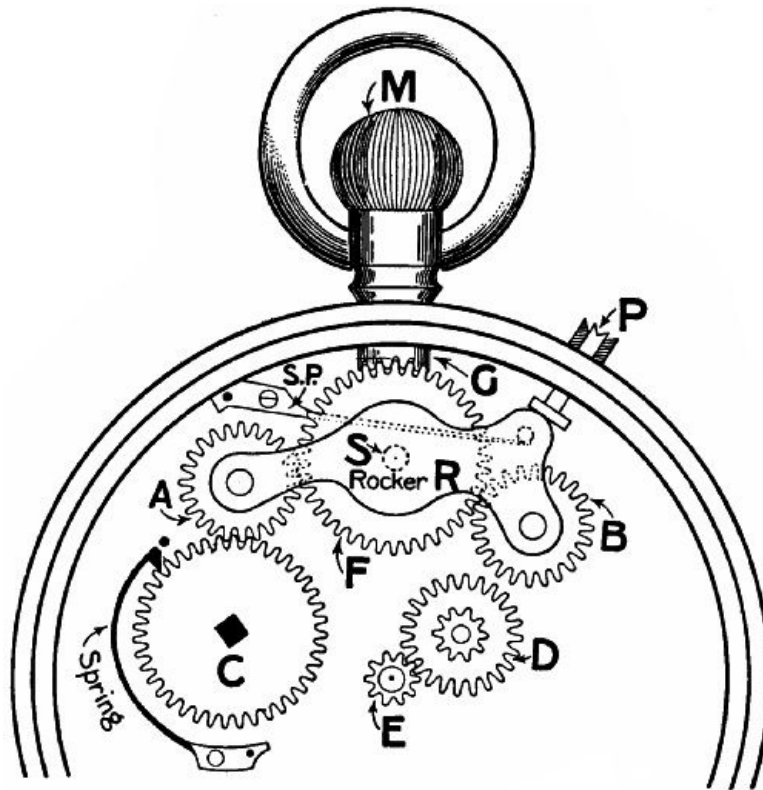

FIG. 209.—The winding mechanism of a keyless watch.
There are two forms of "going-barrel" keyless mechanism—(1) The rocking bar; (2) the shifting sleeve. The *rocking bar* device is shown in Figs. 209, 210. The milled head *M* turns a cog, *G*, which is always in gear with a cog, *F*. This cog gears with two others, *A* and *B*, mounted at each end of the rocker *R*, which moves on pivot *S*. A spring, *s P*, attached to the watch plate presses against a small stud on the rocking bar, and keeps *A* normally in gear with *c*, mounted on the arbor of the mainspring.
To wind the watch, *M* is turned so as to give *F* an anti-clockwise motion. The teeth of *F* now press *A* downwards and keep it in gear with *c* while the winding is done. A spring click (marked solid black) prevents the spring uncoiling (Fig. 209). If *F* is turned in a clockwise direction it lifts *A* and prevents it biting the teeth of *c*, and no strain is thrown on *c*.
The *shifting sleeve* mechanism has a bevel pinion in the place of *G* (Fig. 209) gearing with the mainspring cog. The shaft of the knob *M* is round where it passes through the bevel and can turn freely inside it, but is square below. On the square part is mounted a little sliding clutch with teeth on the top corresponding with the other teeth on the under side of the bevel-wheel, and teeth similar to those of *G* (Fig. 209) at the end. The clutch has a groove cut in the circumference, and in this lies the end of a spring lever which can be depressed by the push-piece. The mechanism much resembles on a small scale the motor car changing gear (Fig. 49). Normally, the clutch is pushed up the square part of the knob shaft by the spring so as to engage with the bevel and the winding-wheels. On depressing the clutch by means of the push-piece it gears with the minute-hand pinion, and lets go of the bevel.